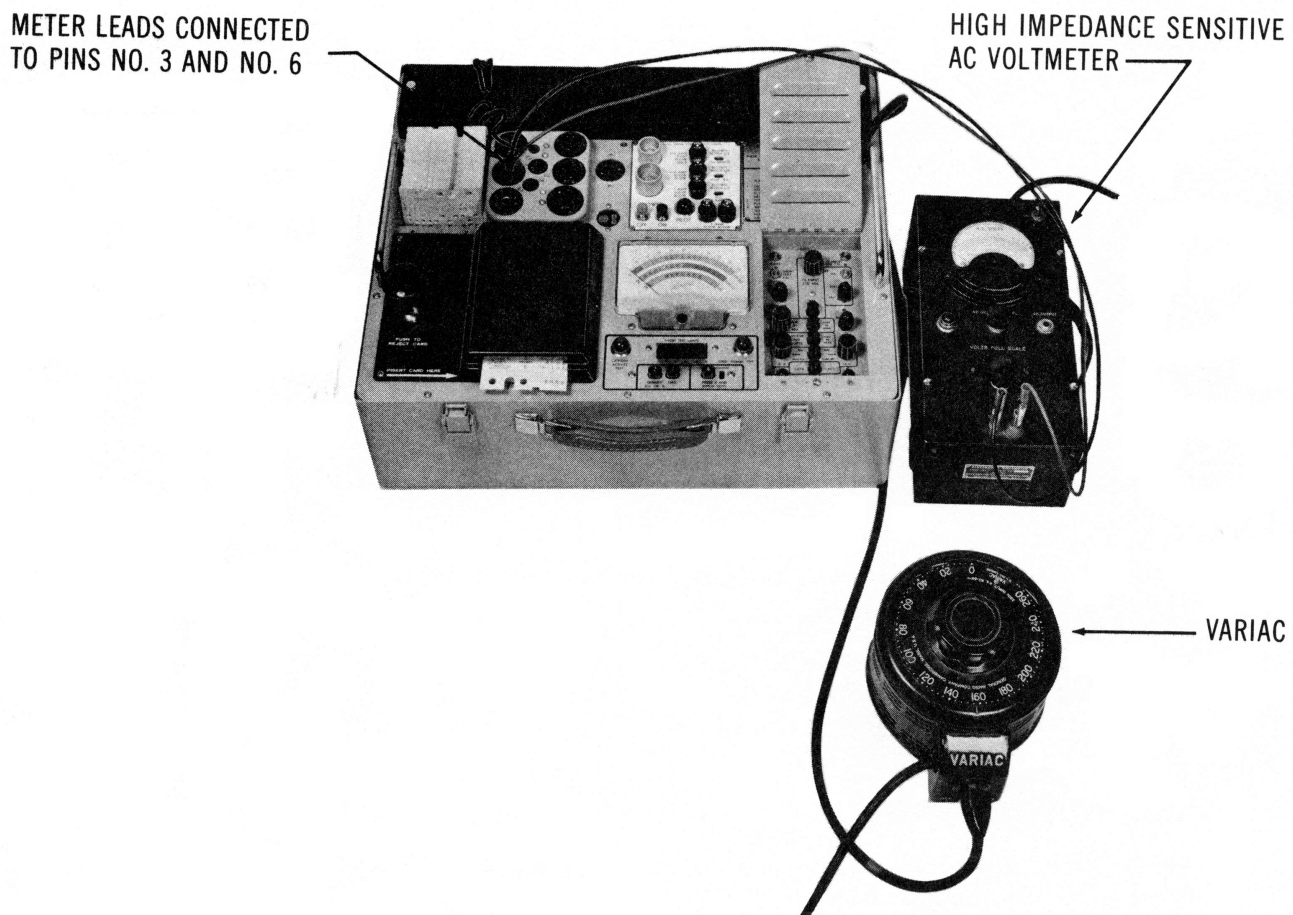

Figure 13 - Signal Regulation and Amplitude Check
- a. Connect the tube tester to the power line thru a Variac set to 115 volts. See figure 13. Turn the instrument on.
Connect the instrument to the power line and turn it on. Connect an AC voltmeter capable of accurately measuring 5 volts RMS to pins 3 and 6 on any convenient tube socket. (The Ballantine Model 300 or equivalent used for signal adjustments can also be used for this measurement.) See Figure 13.